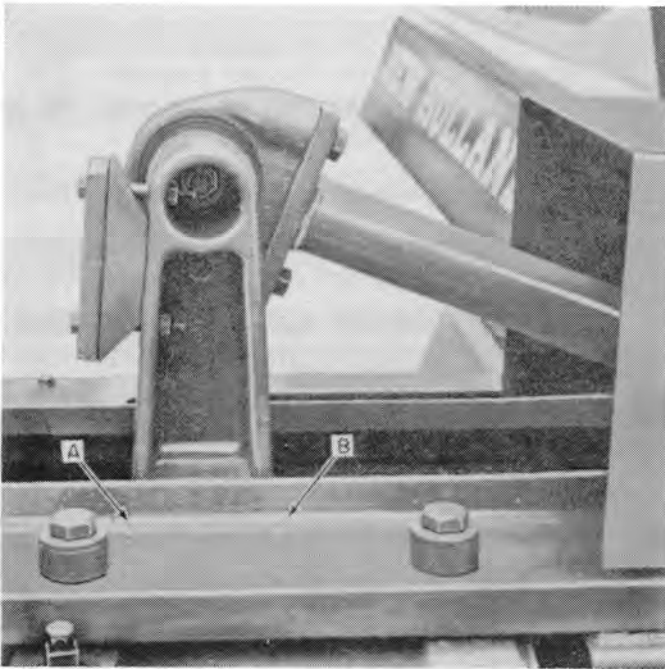
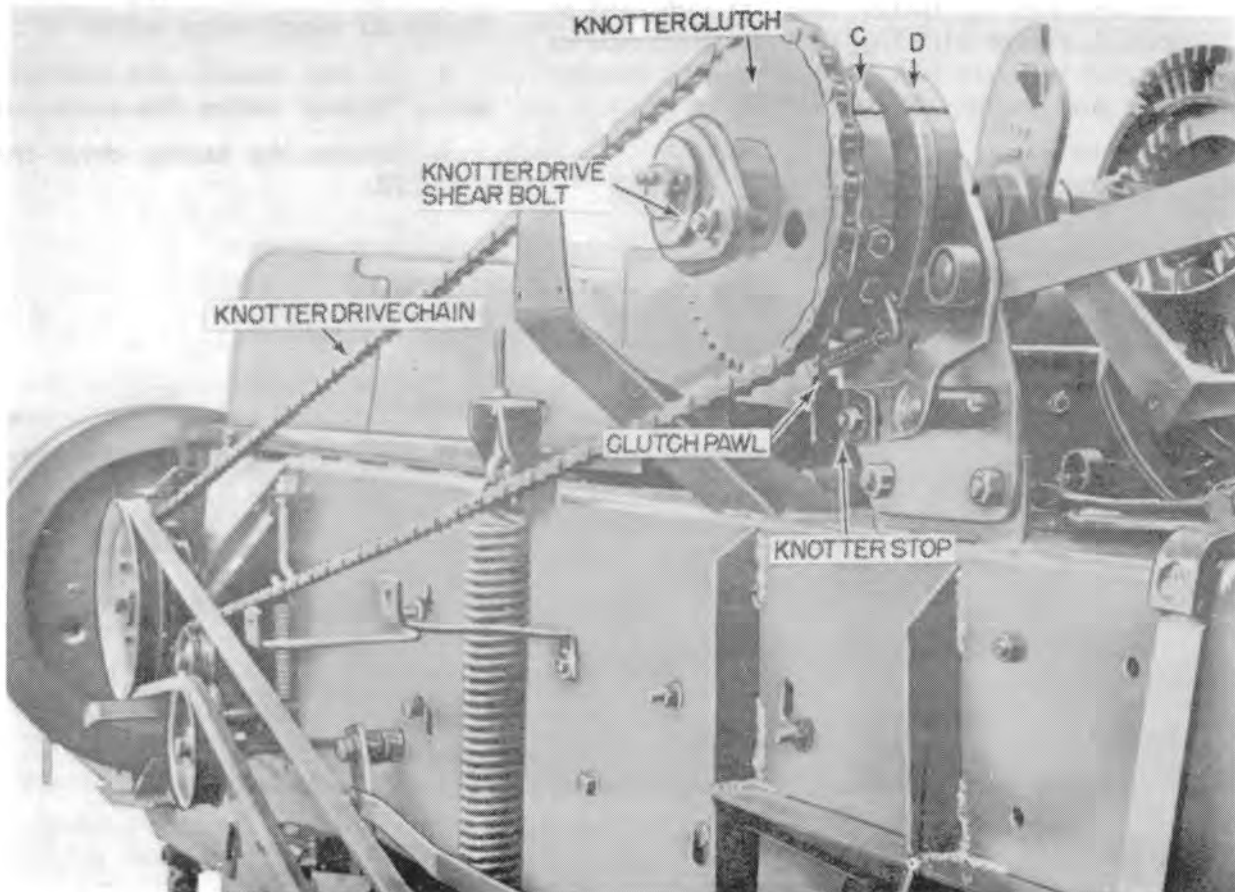

FIGURE 32A
FIGURE 33
This can be checked very easily by means of the timing marks provided on the baler. To check, rotate the flywheel until the main crank is in a vertical position between marks A and B as shown in Figure 32A. Be certain that the knotter clutch pawl is tight against the knotter stop, see Figure 33.
At this time the marks at points C and D Figure 33 should align within  $\frac{1}{4}$ ".
1. Remove the knotter drive chain, Figure 33.
4. Turn the knotter clutch gear until the timing marks of the knotter clutch and the knotter clutch disc are directly opposite each other as shown at points C and D, Figure 33.